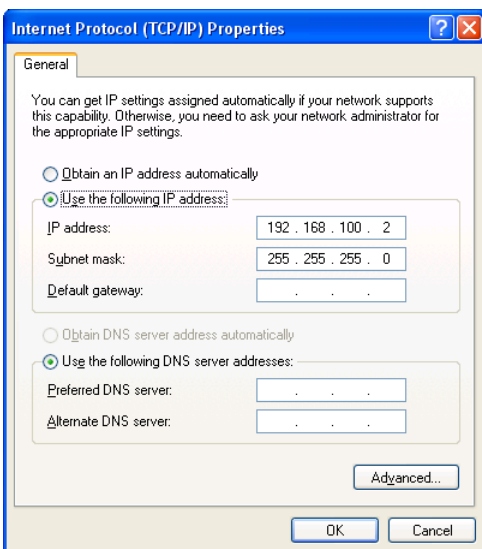

Fig. 2-31, Internet Protocol (TCP/IP) Properties Screen, Windows XP
7. The Internet Protocol (TCP/IP) Properties dialog box will open (Fig. 2-31). Select "Use the following IP address". Enter the values as shown (i.e. IP address 192.168.100.2 and Subnet mask 255.255.255.0). Record the existing IP address and Subnet mask in order to later return the computer to its original state.